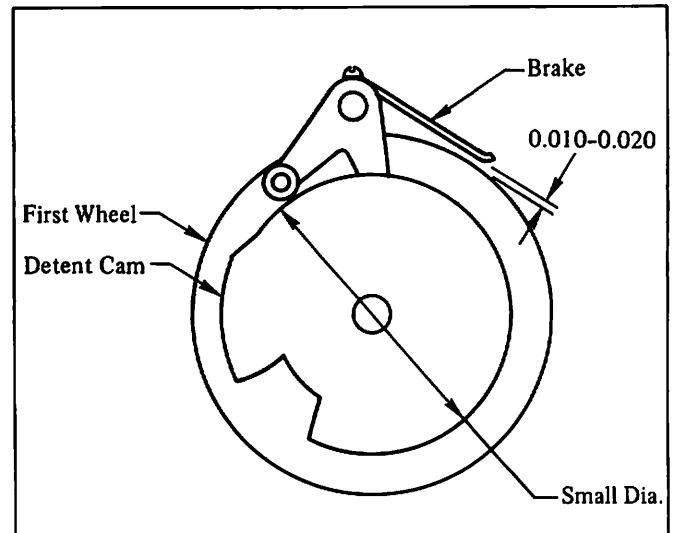

Figure 30. Brake Adjustment.
- a. Rotate reset gear to position cam as shown in Figure 30.